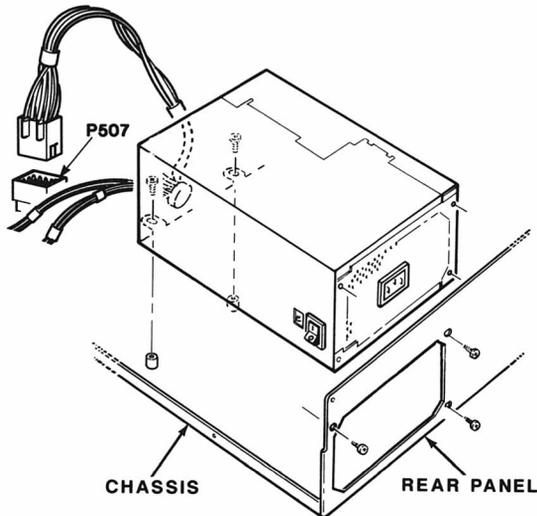

Figure 4-9. Power Supply Removal
4. Remove the three screws that secure the power supply to the back panel of the computer, as shown in Figure 4-9.
5. Remove the two screws that secure the power supply to the bottom of the chassis, as shown in Figure 4-9.